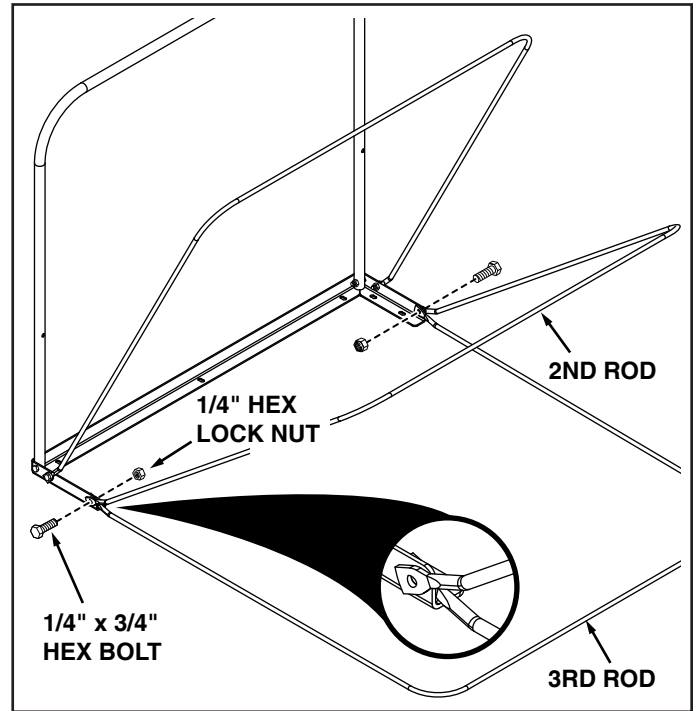

FIGURE 25
9. Attach the second lower support rod to the outside and the third lower support rod to the inside of the top angle support using two 1/4" x 3/4" hex bolts and 1/4" hex lock nuts. **DO NOT TIGHTEN YET.** See figure 25.